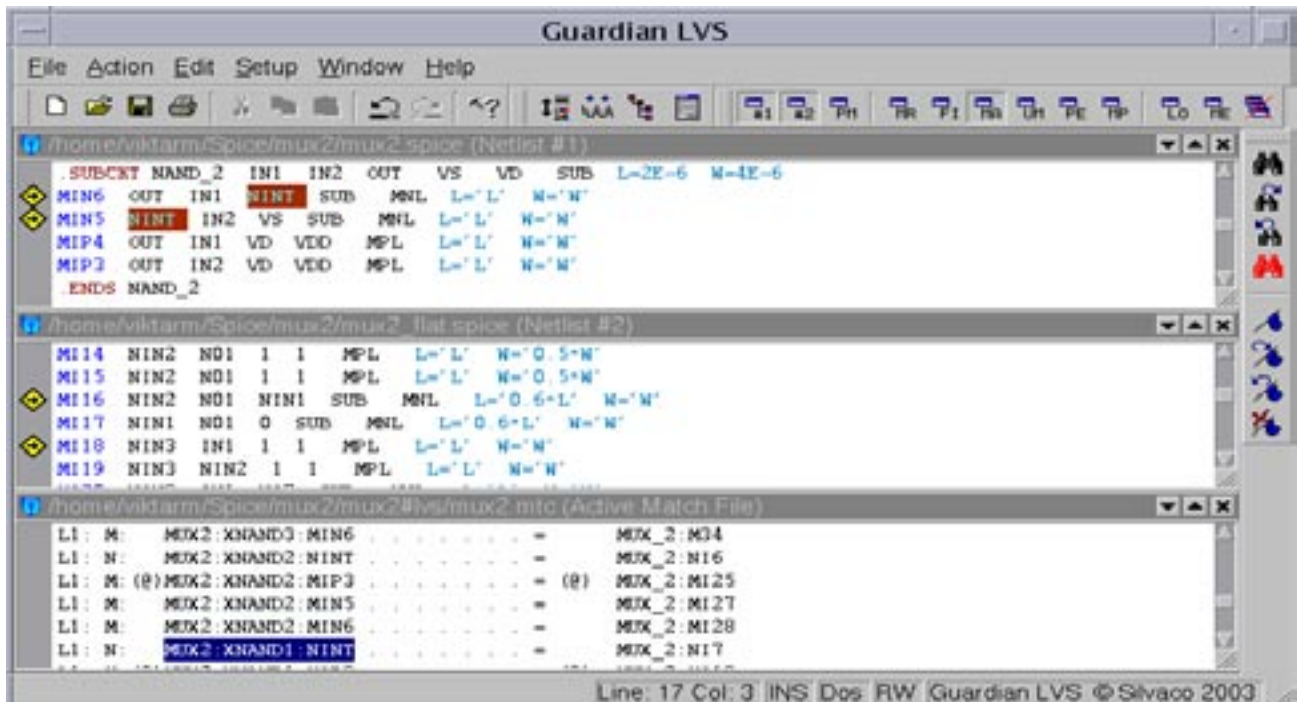

Figure 1. Spice syntax highlighting in platform-independent Guardian LVS.
*Guardian LVS* also performs the spice syntax highlighting for schematic and layout netlists. It can recognize names of devices and subcircuit instances, spice commands, parameter keywords, and comments (see Figure 1).
- Netlist File Highlighting tool allows you to find a node in netlist after double click on its name in a report. The corresponding spice file will be open and all appearances of this node name will be highlighted at the top level or in a subcircuit (see Figure 1).